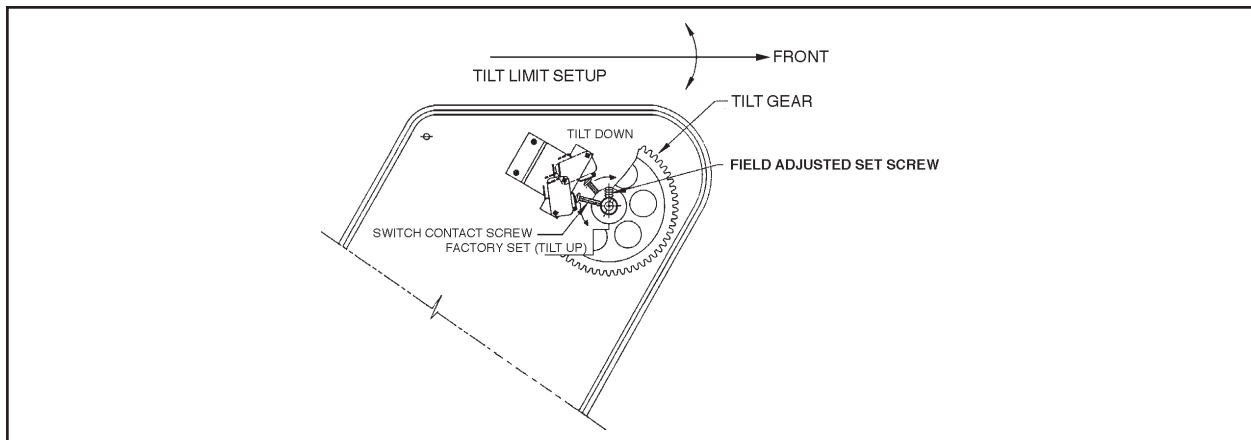

Figure 3. Tilt Limit Stop Adjustment
9. Refer to Figure 3 and loosen the recessed set screws on the up and down limit stop collars attached to the tilt shaft.